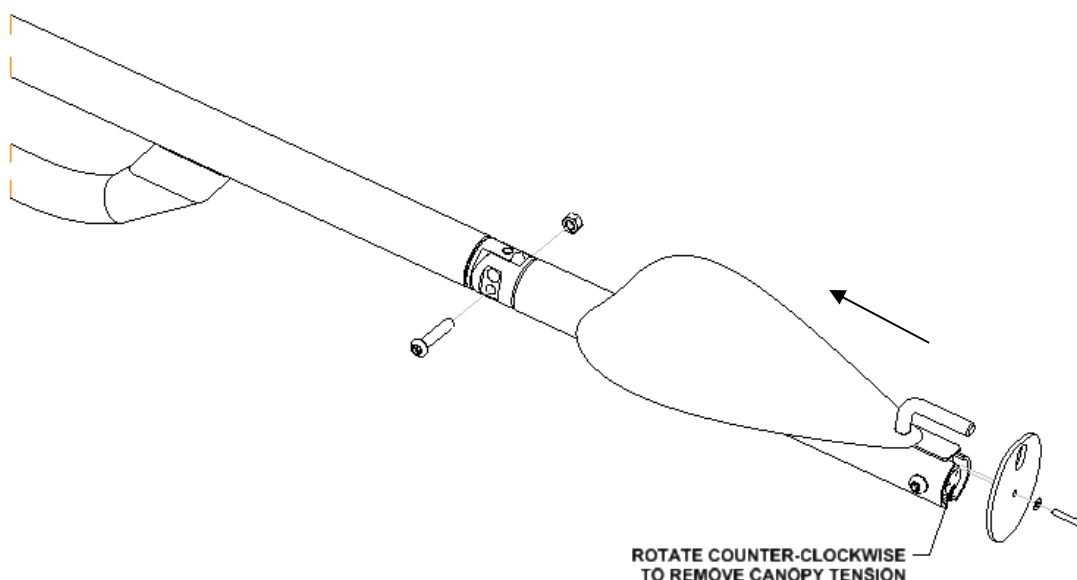

Figure 19: EZ Tension Arm in Closed Position
1. Remove end caps from end of all tensioning rafters. See Figure 19.
3. Remove lower 3/8" x 2" button head cap screw and 3/8" locknut at the pivot joint that secures the tensioning arm in the closed position. See Figure 19.
3. Begin tightening the shade canopy by pulling all of the tension arms into the closed position shown in Figure 19. When arms are in closed position, insert hardware to lock arms in place.